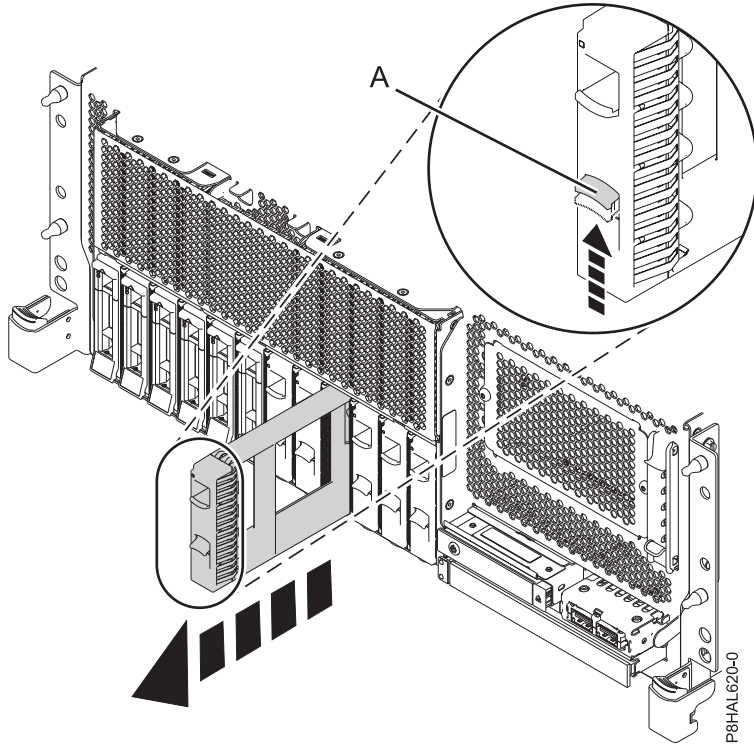

Figure 33. Removing a disk drive filler from a rack-mounted base function system
- a. Push the lock (A) on the handle of the filler in the direction that is shown in Figure 33 on page 39.